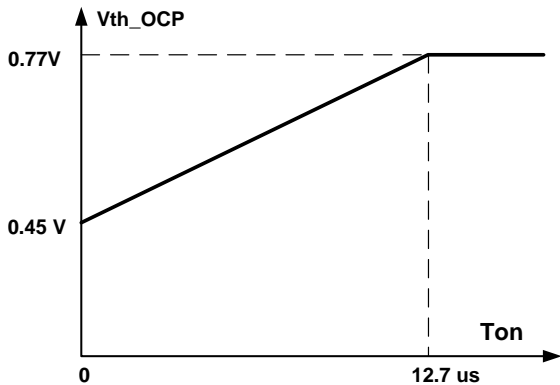

Fig.4
0.45V to 0.77V. For the ON time larger than 12.7us, the OCP threshold is clamped to 0.77V, as shown in Figure 4.